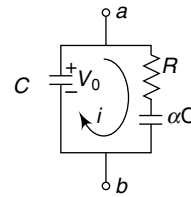

Fig. 1.46 Circuit of Ex. 1.38
1.38 In Fig. 1.46, a capacitor of capacitance C is charged to a voltage V_0 (dc) and is allowed to discharge through a resistance R while charging another capacitor of capacitance αC . Determine the final voltage at terminals ($a - b$) under steady-state condition.